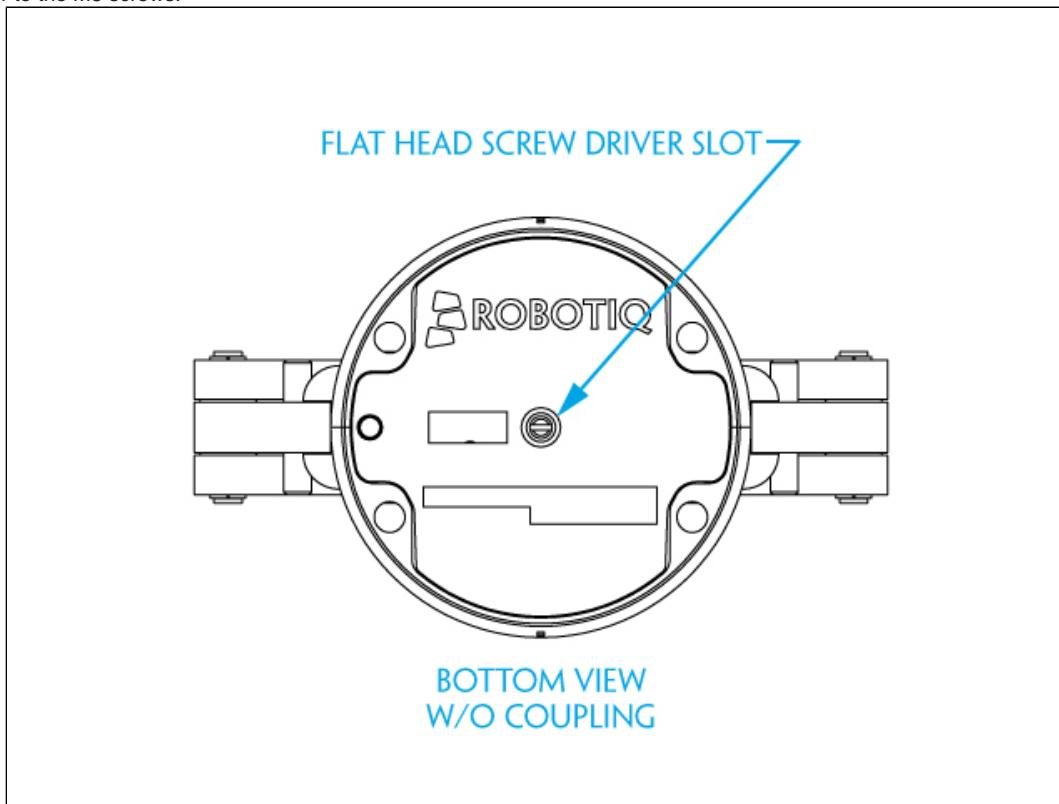

Figure 7.1.1 : Flat head screwdriver slot for manual opening and closing of the Gripper.
1. Remove the Gripper from its coupling using the 4 mm hex key to unscrew the four (4) M5-0.8 x 35mm socket head cap screws. Note that each screw uses a tooth lock washer, do not lose them.
2. Use the flat head precision screwdriver to open or close the Gripper by accessing the transmission shaft under the Gripper, where the coupling connects. Illustrated in Figure 7.1.1 below.
6. Put the coupling back on and fix it with the four (4) M5-0.8 x 35mm socket head cap screws, use the tooth lock washers, apply medium strength thread locker to the M5 screws.